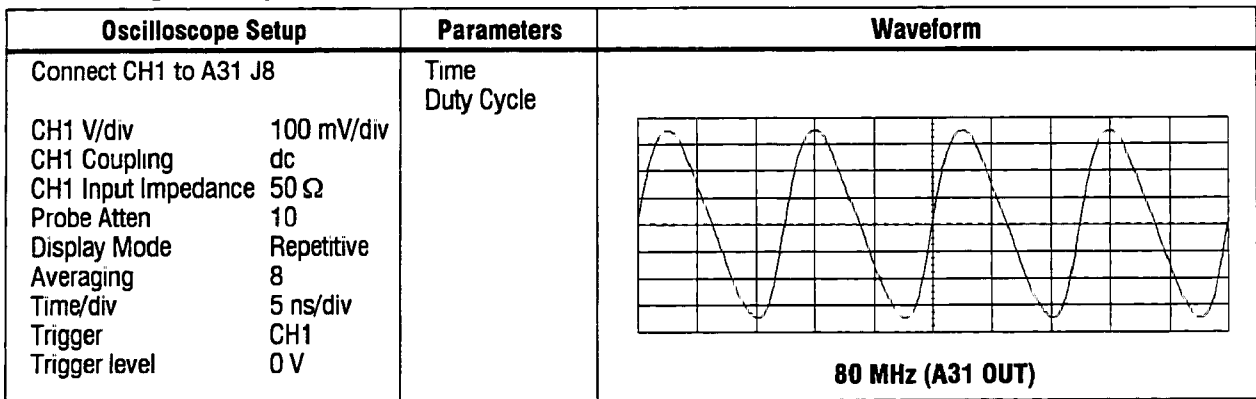

Figure 4-4. 80 MHz Reference Signals
12. Connect a 10:1 resistive divider probe with 500 Ω input resistance to an oscilloscope. Connect the probe to a dc blocking capacitor. Connect the blocking capacitor to A31 J8. Check the clock signal in figure 4-4.
14. If the signal in figure 4-4 is incorrect, the Reference/Calibrator assembly is probably faulty.